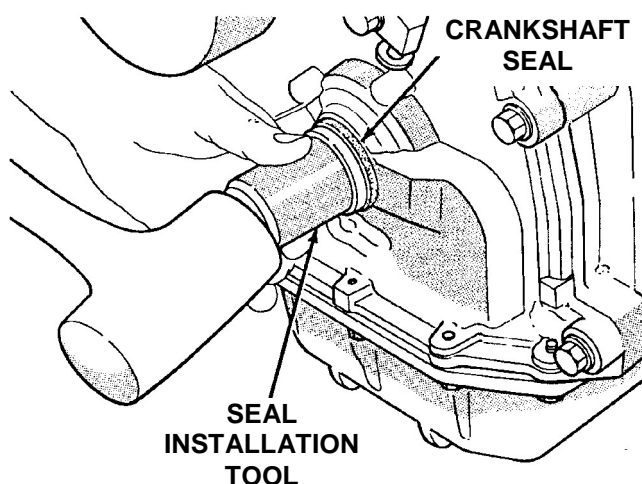

Figure 17
44. Using crank seal installation tool MD998306, install the front crankshaft seal to the proper depth (Figure 17).